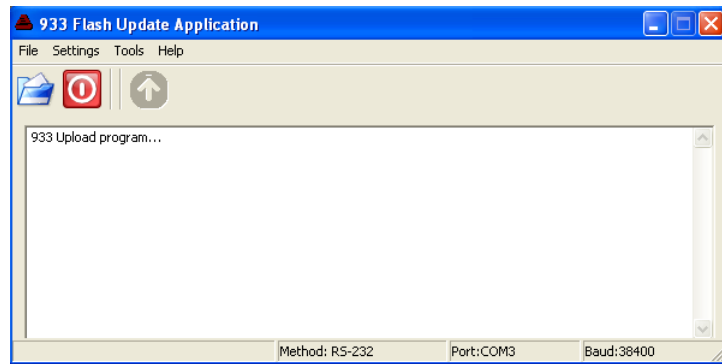

Figure B.1: Starting the 933A Uploader
2. Start the uploader software, 933Uploader.exe. It should appear as shown in Figure B.1.